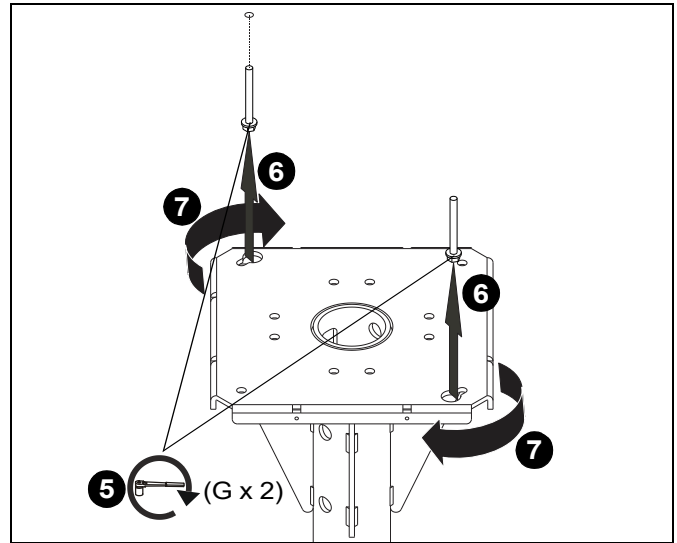

Figure 3
5. Partially install two M8 x 75mm concrete anchors (G) into two drilled on opposite corners. (See Figure 3)
6. Lift floor/ceiling plate (A) up to M8 x 75m concrete anchors (G), placing the two key-sized holes over the anchors. (See Figure 3)
7. Turn floor/ceiling plate (A) so that anchors (G) are positioned in small section of key-sized holes. (See Figure 3)